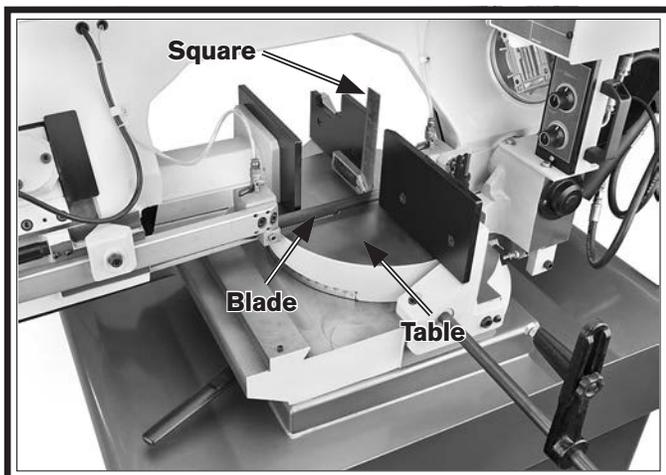

Figure 48. Squaring the blade.
3. Place a square on the table bed and against the edge of the blade, as shown in **Figure 48**, then check different points along the length of the table between the blade guides.